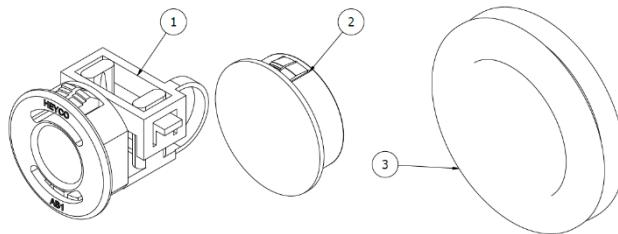

Figure 9 – Thermino TS Heat Battery Grommets & pipe interfaces
- Remove the respective rubber grommets (item 3 – Figure 9) in the outer housing and cut the centres (with a cross) with a knife.
- Move the temperature sensor cable strain relief fittings to the side you wish to make the entries/exits. Cover all other holes in the enclosure with the supplied blanking bushes (See Figure 9).